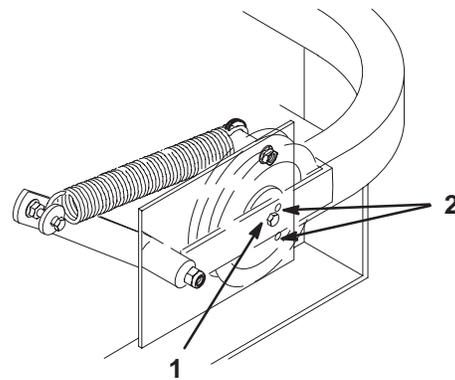

Figure 68
6. Check belt tension. The center bolt of spring loaded idler must be between the two alignment holes in left support plate (Fig 68).
Check position of center bolt in a High Height of Cut. The center bolt must be at or above the lower adjustment hole (Fig 68).
- Check belt tension again. The center bolt of spring loaded idler must be between the two alignment holes in left support plate (Fig 68). Adjust, if necessary, and tighten all hardware securely.